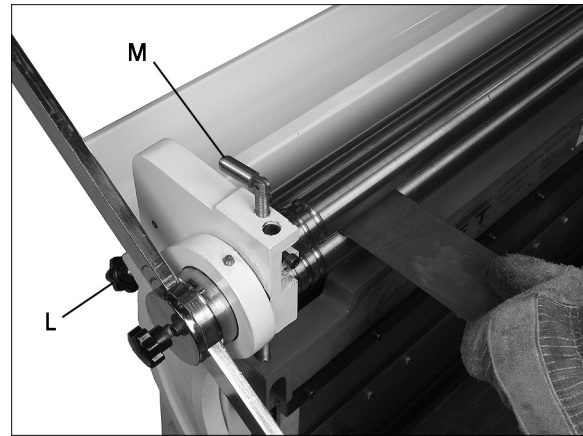

Figure 12
2. Back off the idle roll completely by rotating the *idle roll screws* (L, Figure 12) counter-clockwise.
3. Loosen the *bolt* (M, Figure 12) to increase the space between upper and lower press rolls.
4. Insert the material between the upper and lower rolls, and tighten the bolt (M, Figure 12) to lower the upper roll, until the material fits snugly. The upper roll must have sufficient pressure on the work piece to feed properly.
5. Rotate both *idle roll screws* (L, Figure 12) to adjust the idle roll's proximity to the two main rollers. *Raise both ends an equal amount.*